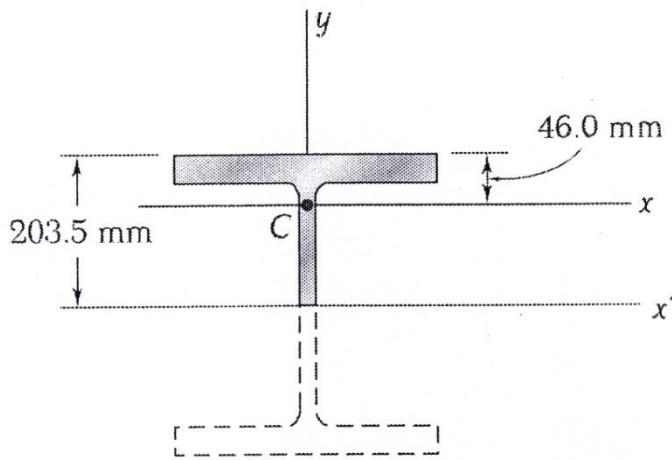

Figure 8
5. (a) A column of 8 m effective length is made from half of a W410x 60 rolled-steel shape (shaded portion) as shown in Figure 8. Knowing that the centroid, C, of the section is located as shown in Figure 8, determine the factor of safety if the allowable centric load is 90 kN. Use  $E = 200\text{GPa}$ . Given,